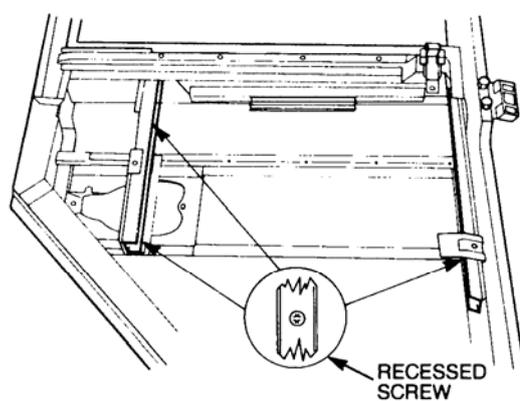

Figure 31 Window Channel Screws Removal
- ii. Remove the recessed screws securing the lower ends of the window channels to the door frame (refer Figure 31).
- o.** Align the lower channel mounting holes in the frame and secure with the screws (refer Figure 31).